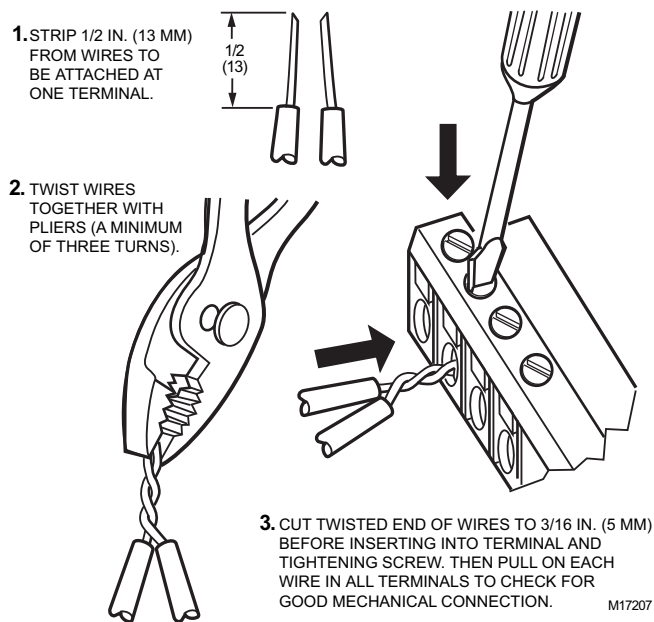

Fig. 13. Attaching two or more wires at terminal blocks.
NOTE: When attaching two or more wires to the same terminal, other than 14 AWG (2.0 sq mm), be sure to twist them together. Deviation from this rule can result in improper electrical contact (see Fig. 13).
3. If two or more wires are being inserted into one terminal location, twist the wires together a minimum of three turns before inserting them (see Fig. 13).